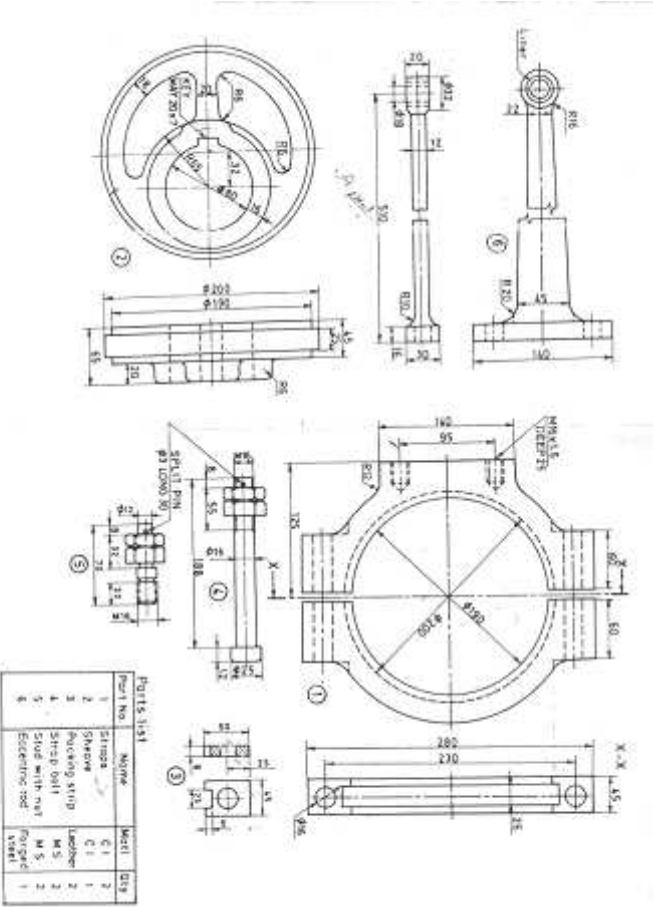

Figure 3:
2. Figure 3 shows details of “Eccentric” . Assemble and draw [50]